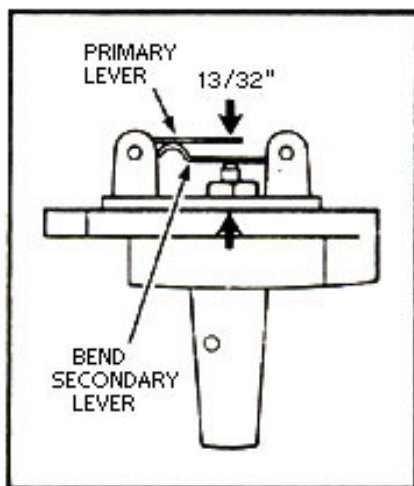

Figure 1
A. Examine idle adjusting screw (26) making certain tapered tip is not grooved or damaged from excessive tightening. Replace if damaged. When installing, lightly bottom (do not force), then back out screw $\frac{1}{2}$ to $\frac{3}{4}$ turn for initial setting. Make final mixture setting as stated in adjustment section 4-C.
B. Check float assembly (16) for deterioration, saturation and loss of sealer. Make certain that float spring extending from top of float has not been stretched out of shape.
C. With float spring in place, in top of float (16), the distance measured from top of spring to top of float should be $\frac{5}{64}$ " (see exploded view).
D. When installing the fuel inlet needle and seat assembly (15), note that some models will contain a resilient tipped needle valve while others will contain a removable insert type resilient seat. The resilient seat type has one side grooved and the other side smooth. The smooth side must face tip of inlet needle valve.
A. Float Lever: (Fig.1)